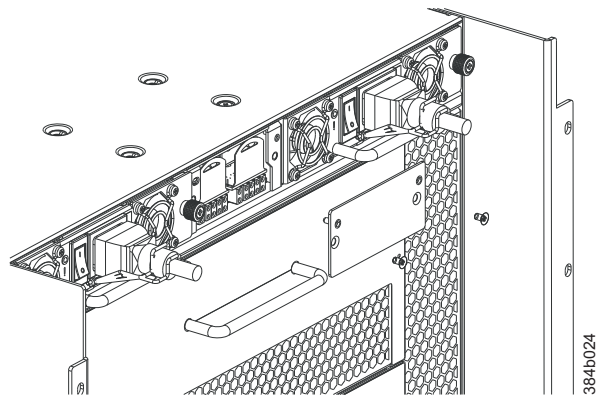

Figure 40. WWN bezel and card removal and installation
3. Remove the two screws from the WWN bezel . Pull the bezel away from the chassis and set it aside (see Figure 40). The WWN cards and their status LEDs are visible.
6. Install the WWN bezel. Orient the bezel on the chassis (Figure 40 on page 80). Insert and tighten the two screws.